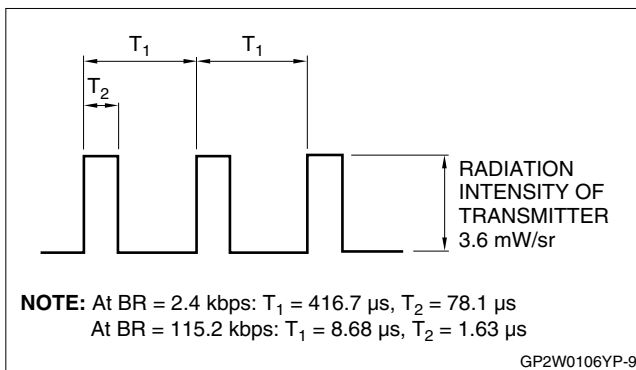

Figure 9. Input Signal Waveform (Detector Side)
3.  $I_{OH} = 20\ \mu\text{A}$ . See Figures 9, 10, and 11.
4. BR = 115.2 kbps,  $\phi \leq 15^{\circ}$ . See Figures 9, 10, and 11.
5. BR = 115.2 kbps,  $\phi \leq 15^{\circ}$ ,  $T_{OPR} = 25^{\circ}\text{C}$ . See Figures 9, 10, and 11.